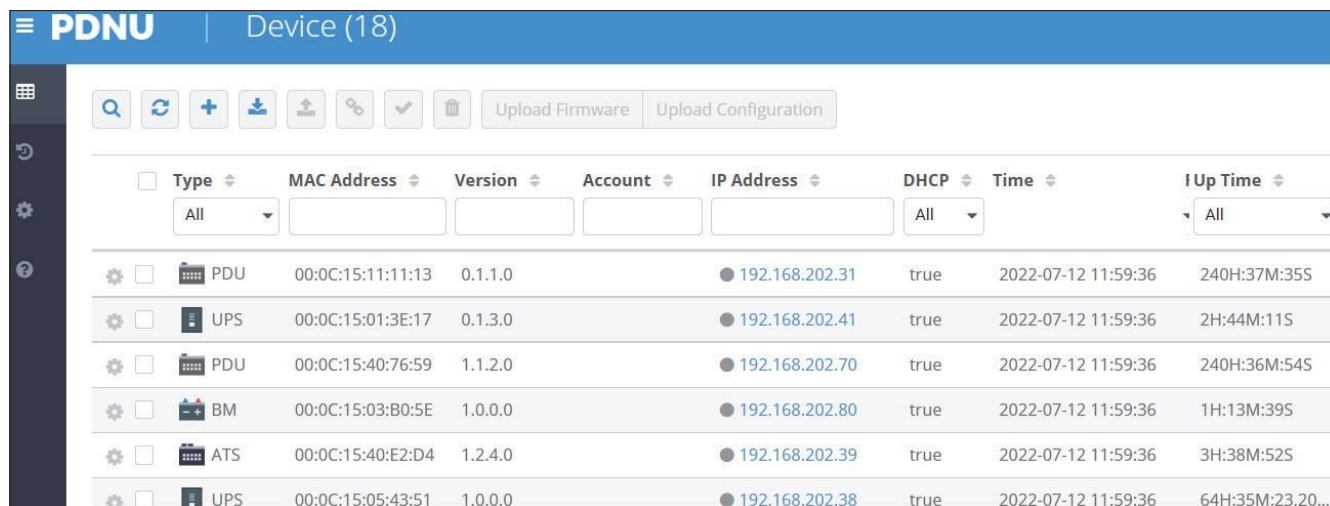

Figure 5. The main window of the “Power Device Network Utility 2” program.
2. The main window of the Power Device Network Utility 2 program is shown in Figure 5. The configuration tool will display all CyberPower Remote Management devices present on the local network subnet. The "Scan" button is used to search the local network subnet again.